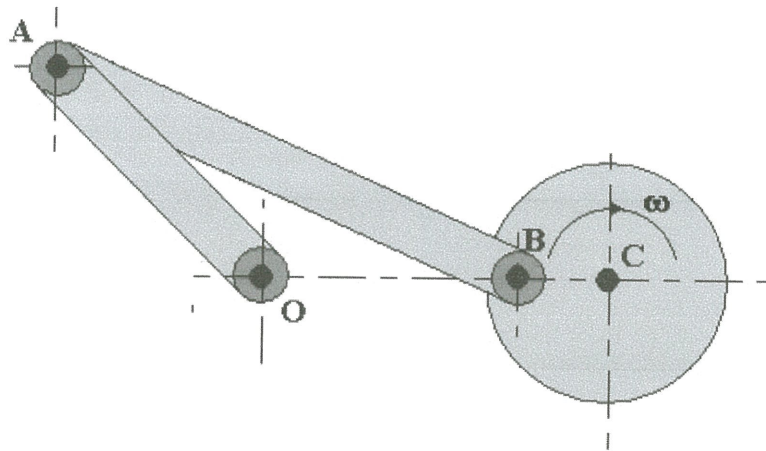

FIGURE Q5
- Q5** Figure Q5 shows a rocking lever mechanism in which steady rotation of the wheel produces an oscillating motion of the lever OA. Both the wheel and the lever are mounted in fixed centres. The wheel rotates clockwise at a uniform angular velocity (ω) of 100 rad/s. The lengths of the links are as follow: BC = 25 mm AB = 100 mm OA = 50 mm and OC = 90 mm.